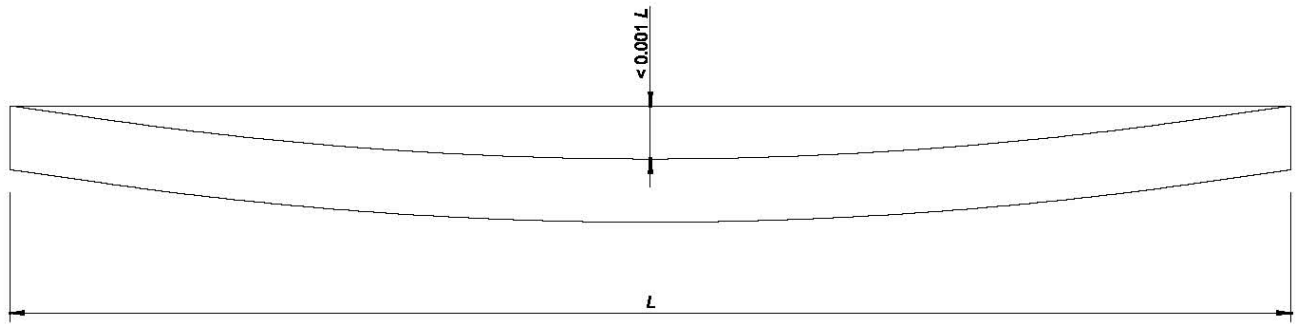

FIGURE 1 - MEASURING FULL-LENGTH STRAIGHTNESS
- b. Straightness: The straightness, in units of inches, shall not exceed 0.001 times the length of the pile. The length of the pile shall be measured in inches. See Figure 1 at end for additional clarification.